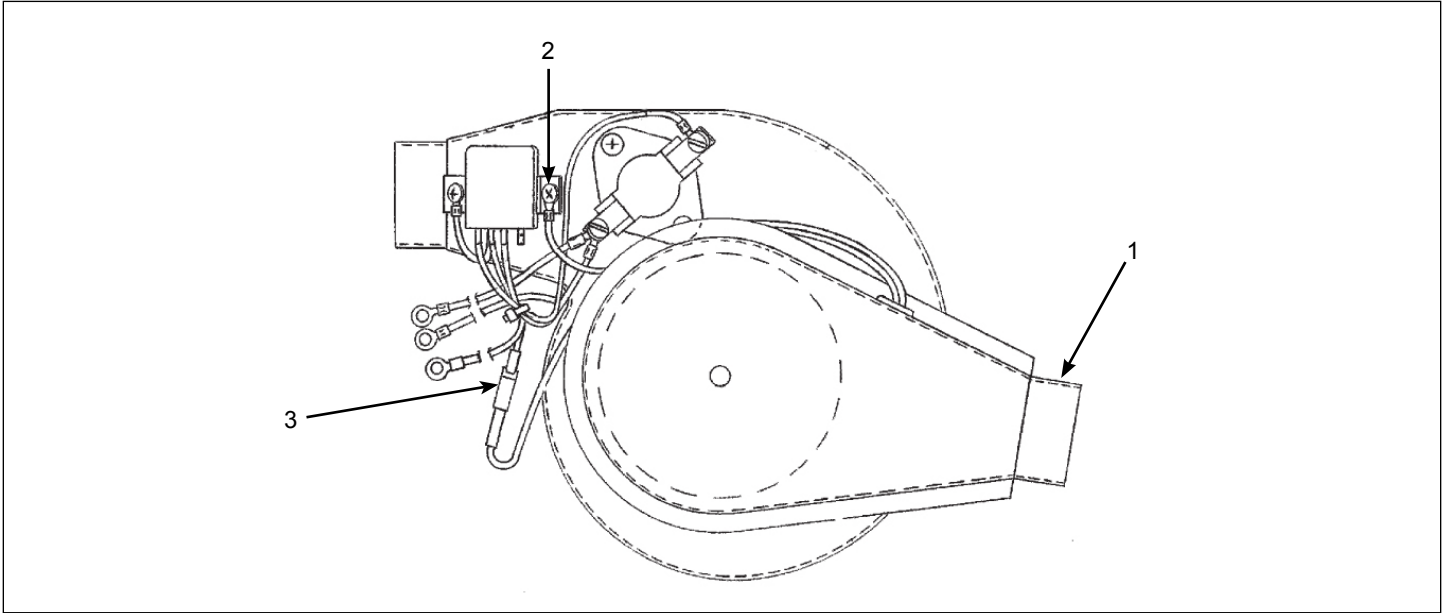

Figure 1 - Combustion Air Blower Assembly
Refer to Figures 1 and 2 (indexed).
- (10) Use a utility knife or equivalent to cut holes in the tape for the grommet and pre-heater installation screws.
- (11) Install the pre-heater in reverse order of removal. Torque mounting screws (5) 12-15 in. lbs.
- (12) Install the inlet adapter onto the combustion air blower assembly and secure with screw P/N 86D35-2 (4). Torque screw 12-15 in. lbs.
- (13) Connect the pre-heater ground and lead wires as shown in Figure 1.
- (14) Install intake ducting (CEET, SCEET, SCAT) onto the inlet adapter (1).
- (15) Perform a ground operational check of the heater in accordance with applicable AFM or POH.